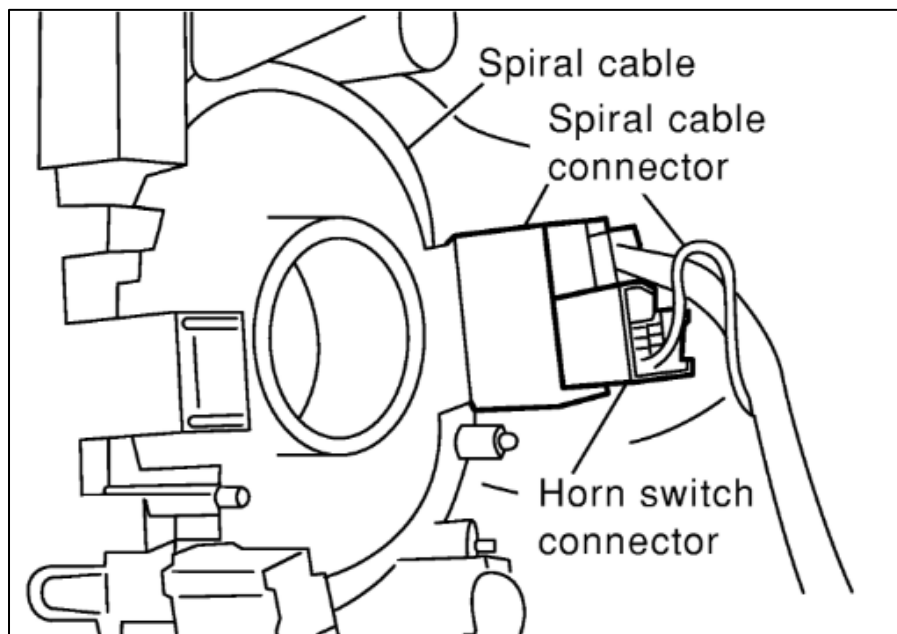

Figure 3
9. Disconnect the Horn Connector and the Gray Connector for the Button Controls on the Steering Wheel. *Figure 3.*